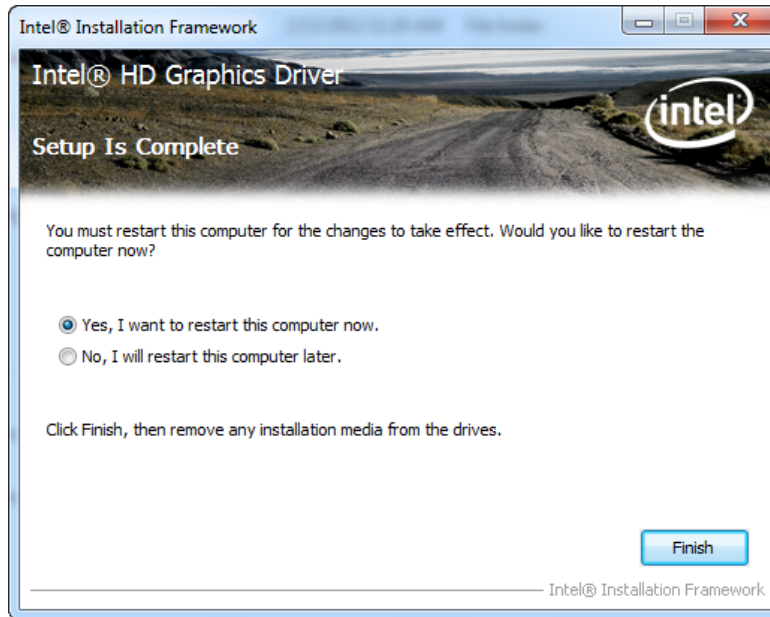

Figure 5-14: Graphics Driver Installation Finish Screen
Step 16: The **Finish** screen in Figure 5-14 appears.